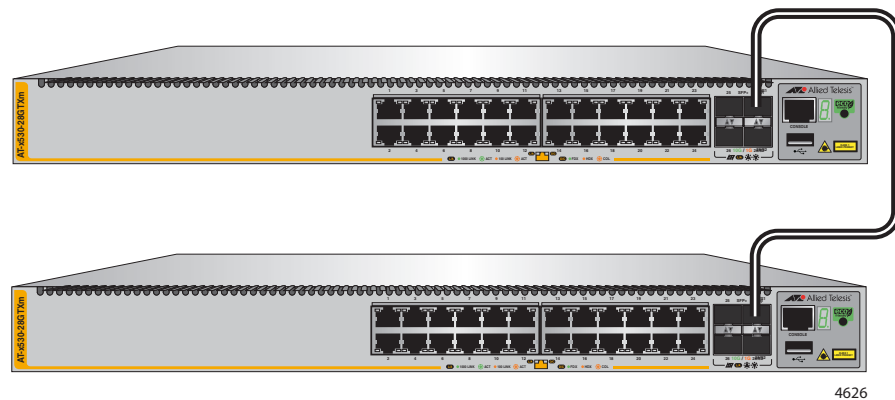

Figure 27. Invalid Stack Trunk with One Port Used Per Switch
**Example 2** Trunks must have a minimum of two ports used per switch. Figure 27 is an example of an invalid stack trunk with one port used per switch.